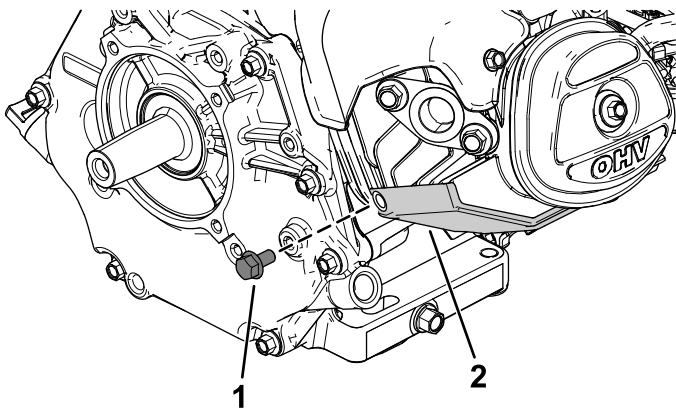

Figure 6
2. Remove the bolt from the engine-mounting surface (Figure 6).